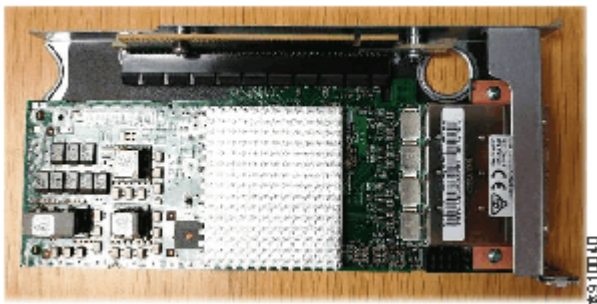

Figure 71. Alignment of the network adapter
- Align the replacement adapter with the PCIe socket of the riser and press the adapter into place. Ensure that the adapter is fully seated in the riser, as shown in Figure 71 on page 125.